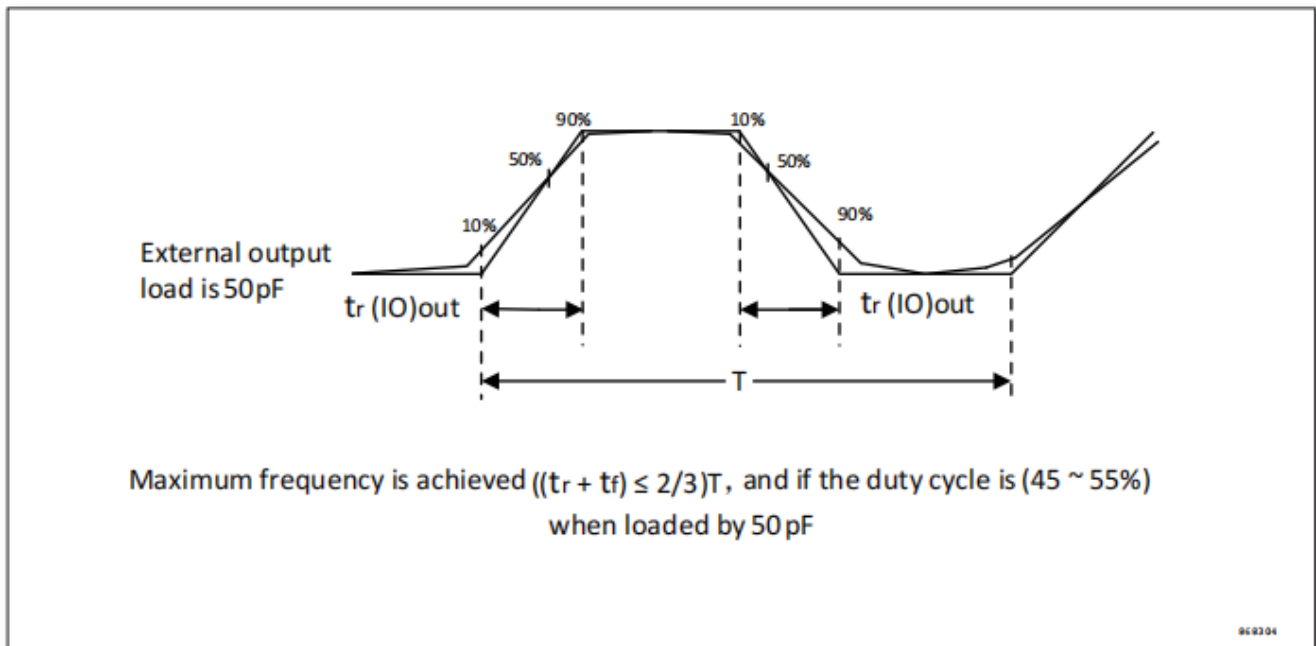

Figure 20 Input/output AC characteristics definition
Table 31 and Figure 20, respectively.
2. The maximum frequency is defined in Figure 20.